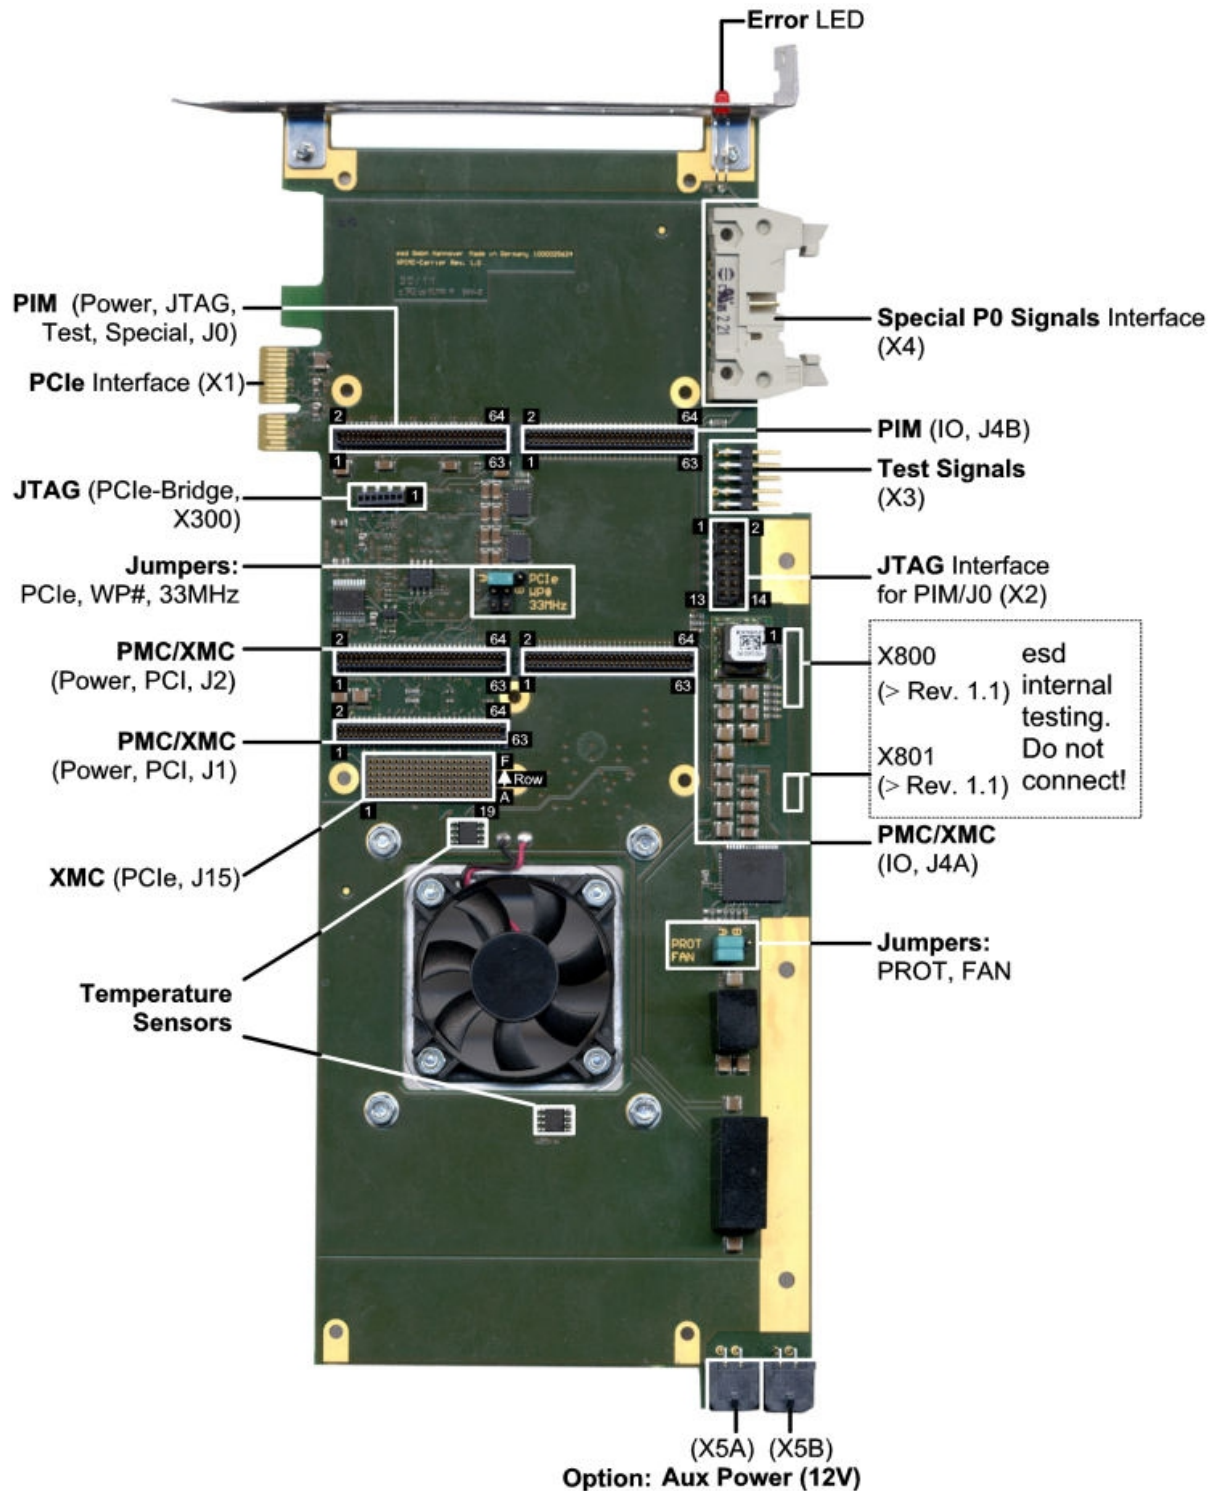

Figure 2: PCB top view (normal version)
- The positions of the connectors JTAG, Test, Aux Power and Clock in the PCIe-XPIMC(reverse)-Carrier are the same as in the normal version (see Figure: 2). The signal assignment of these connectors is described from page 16.